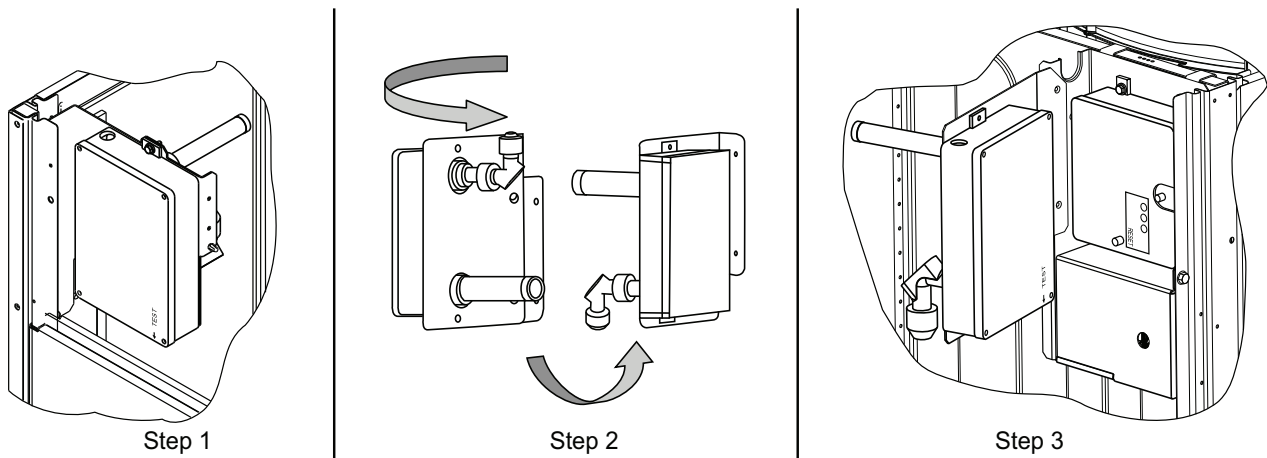

Fig. 60 — Completing Installation of Return Air Smoke Sensor
1. Unscrew the two screws holding the Return Air Smoke Detector assembly. See Fig. 60, Step 1. Save the screws.
2. Turn the assembly 90 degrees and then rotate end to end. Make sure that the elbow fitting is pointing down. See Fig. 60, Step 2.
3. Screw the sensor and detector plate into its operating position using screws from Step 1. See Fig. 60, Step 3.